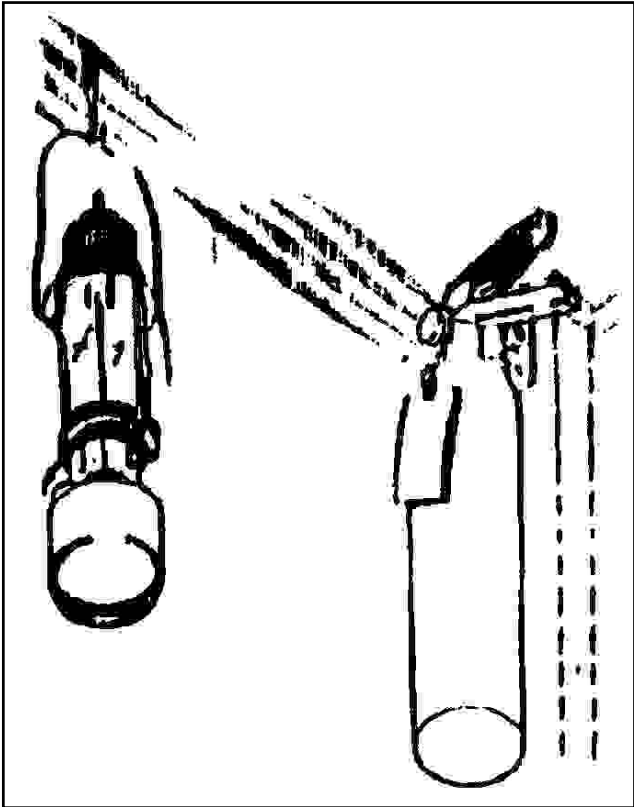

Figure 3-8. Gasoline Lantern and Fire Extinguisher Hook
- k. Have them remove the fire extinguishers from storage and place them in the brackets (see Figure 3-8, page 3-9).
- l. Have them put the lanterns on the hooks of the roof brackets (see Figure 3-8, page 3-9).